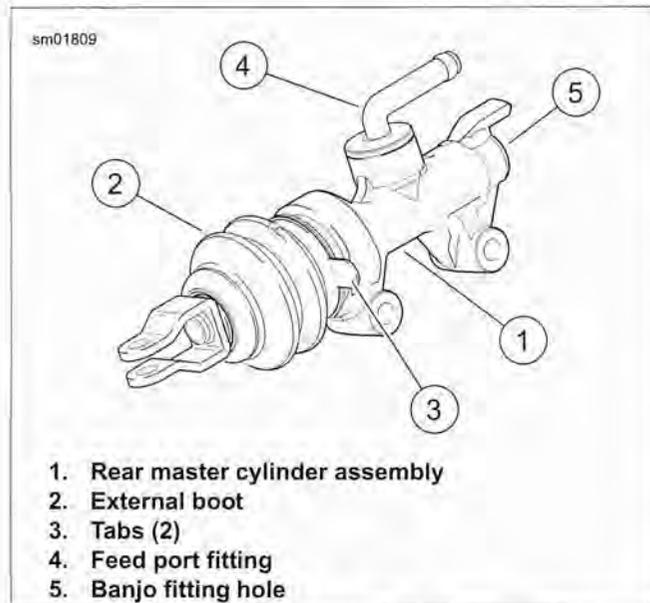

Figure 2-79. Assembled Rear Master Cylinder
2. See Figure 2-79. Remove master cylinder assembly from vise. Slide external boot (2) over yoke/push rod assembly and external return spring.
3. Position external boot so that tabs (3) are at the 3-o'clock and 9-o'clock position when master cylinder body (1) is held upright. This assures that drain hole is at bottom of boot when master cylinder is mounted on motorcycle. Make sure that lip on large end of external boot fits fully in groove in end of master cylinder. Make sure that spring retainer is fully seated in groove in small end of external boot.